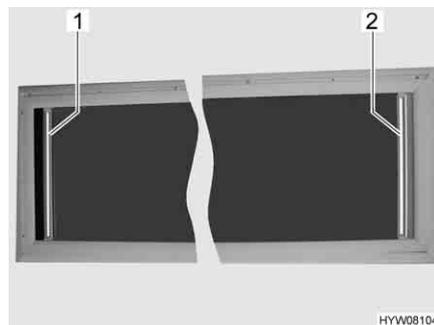

Fig. 102 Hinged sunroof
Closing: ■ Grip the Roman shade (Fig. 102,2) in the centre of the holding bar, pull it out and release it at the required position. The Roman shade will stay in that position.
- Grip the Roman shade (Fig. 102,2) in the centre of the holding bar and slowly push it to its initial position.
- Grip the insect screen in the centre of the holding bar (Fig. 102,1), pull it out and release it at the required position. The insect screen will stay in that position.